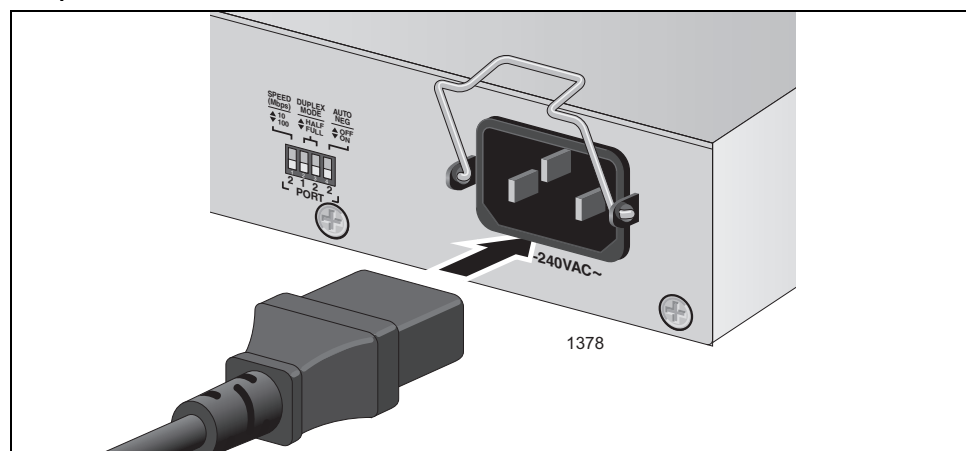

Figure 15. Connecting the AC Power Cord
2. Plug the power cord into the AC power connector on the back panel of the unit shown in Figure 15.